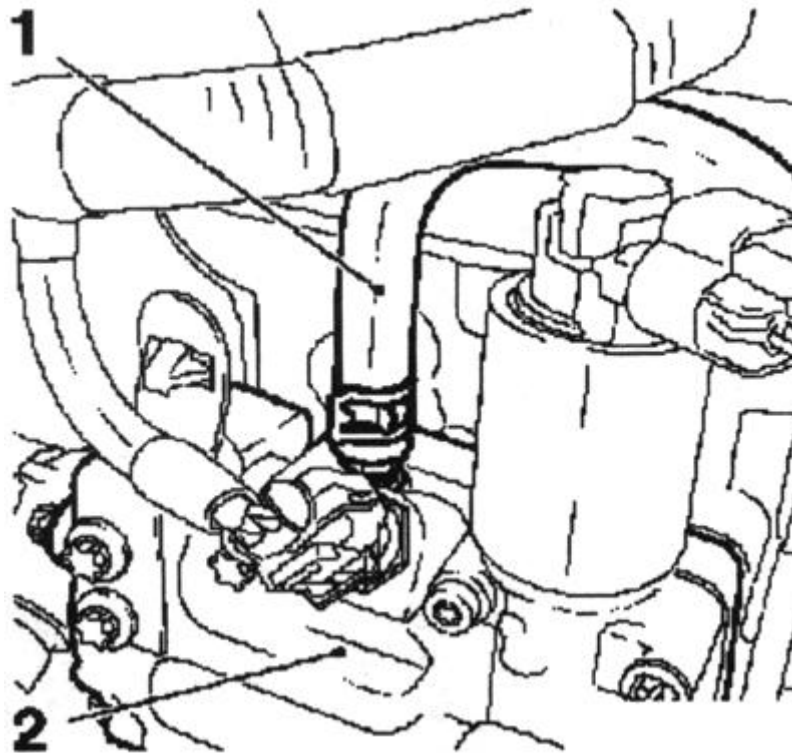

Fig. 3.40. Withdrawal Hose coolant with Corps Thermostat:
Remove the coolant hose (1) with the thermostat housing (Fig. 3.40).